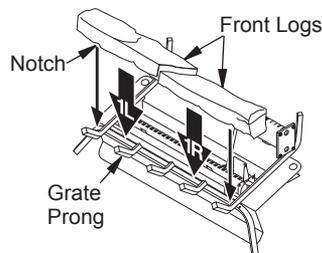

Figure 28 - Installing Front Logs
1. Place front logs (1L and 1R) on top of grate. Make sure notches in bottom of logs fit over grate prongs (see Figure 28).